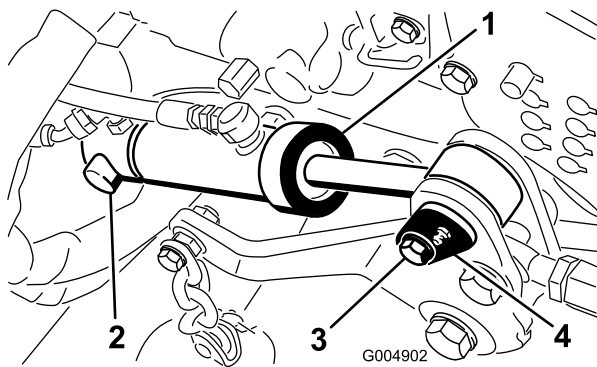

Figure 30
9. Install the rear of the deck lift cylinder onto the pivot pin and secure with the retaining ring (Figure 30).
10. Secure the front of the lift cylinder to the mower frame with the cylinder pin and screw (Figure 30).